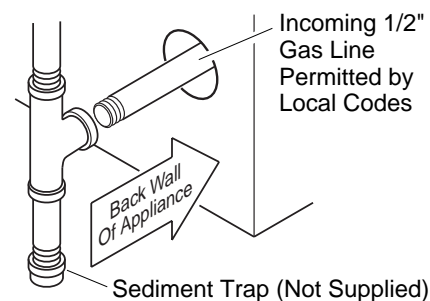

Figure 40 - Sediment Trap
Route a 1/2" NPT black iron gas line towards the appliance coming in from the left. It is recommended to route the pipe between the stand of the firebox and the surround of the fireplace (see Figure 40).
1. Install a sediment trap between the incoming gas line and the gas control valve (see Figure 40). The sediment trap should extend down the center of the pipe. Refer to your local codes.